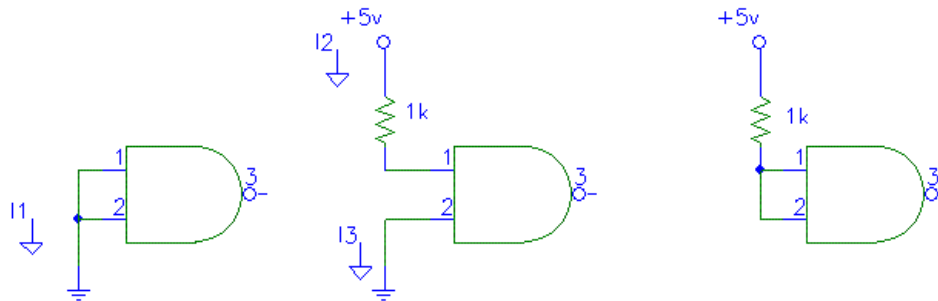

Figure 6
2. Measure the following four currents (as indicated in the figure 6):